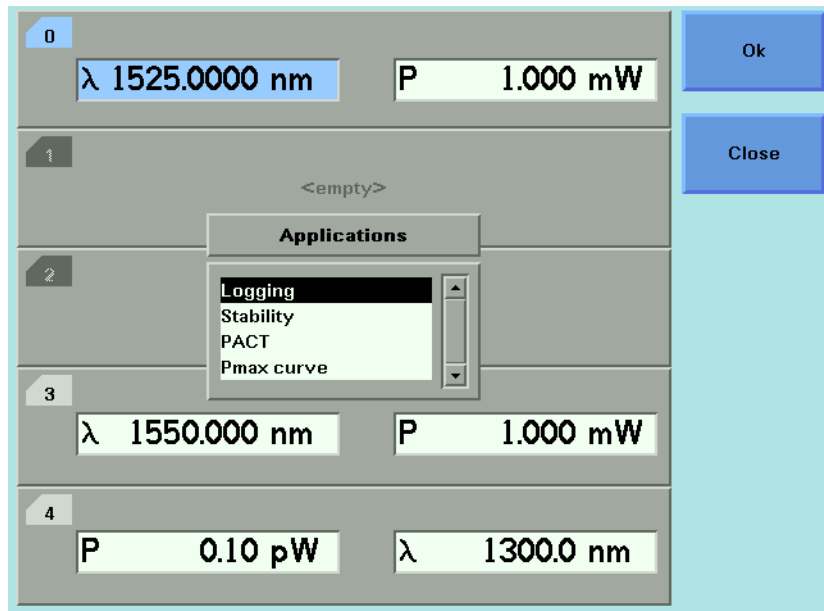

Figure 146 The Applications Menu
- 1 Press the *App/* hardkey. The Applications menu, as shown in Figure 146 , appears.